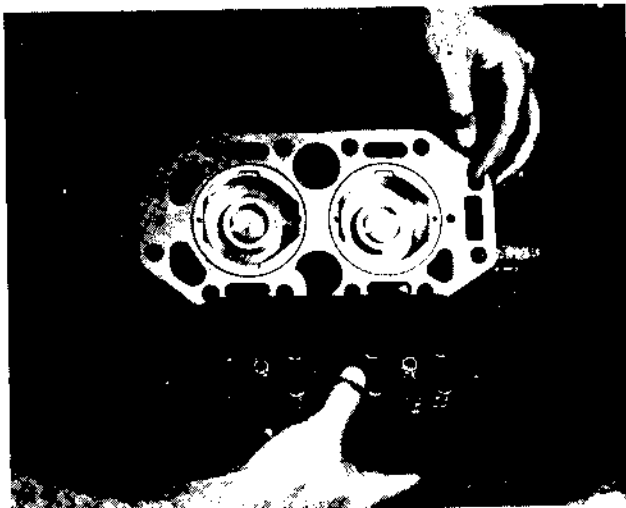

Figure 2
2. Lift the cylinder head and valve plate assembly (Figure 2) off the housing. The suction valves, on the bottom side of the valve plate may fall away when the plate is lifted off the housing.